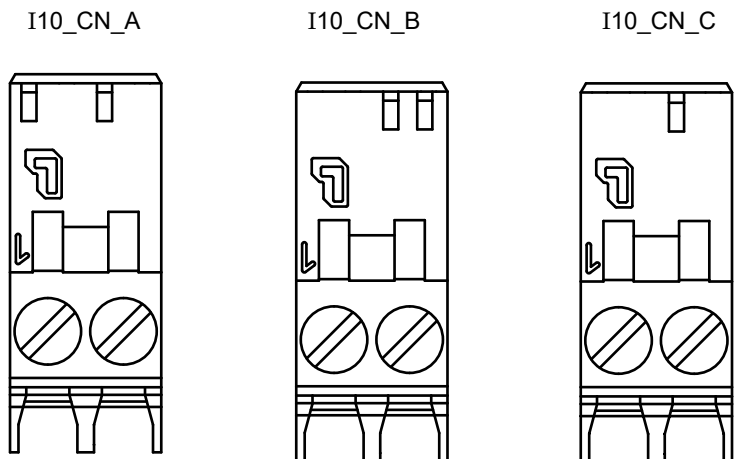

Fig. 2
2. Room Sensors Connector Kit - Shown in Fig. 2.